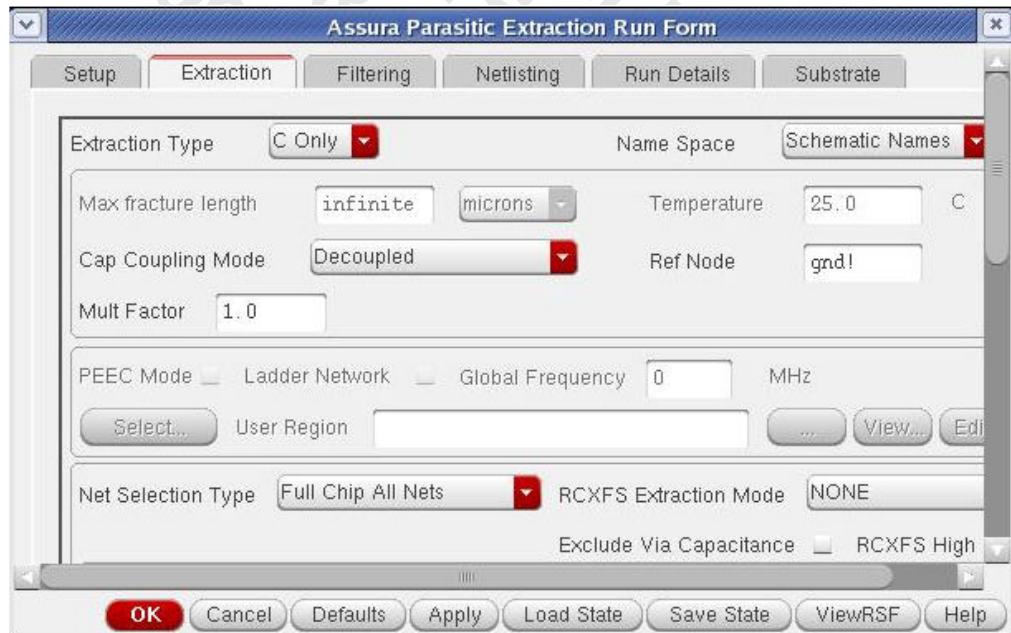

FIG. 26 Extraction folder of Assura RCX window
3. In the “Extraction” folder of Assura RCX window, select the “extraction mode” to “C only” (if you want to extract only C), set the “Name space” to “Schematic Names” and fill in the “Ref Node”(here we use “gnd!”)(Fig 26).